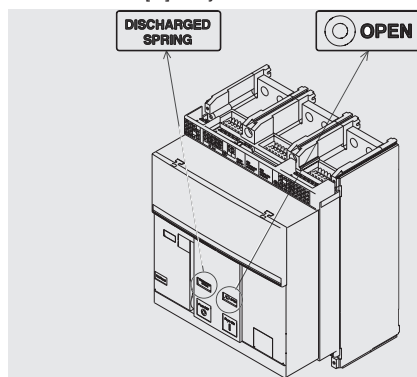

Figure 18
1. Check that the circuit-breaker is open (open / closed indicator "O - OPEN"), and check that the springs are discharged (spring signalling device "white - DISCHARGED SPRING") as indicated in Figure 18.